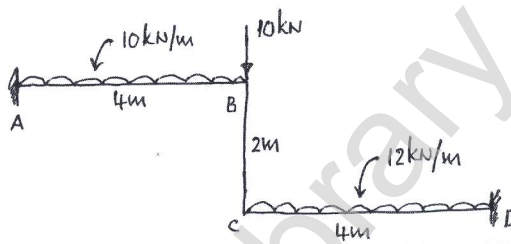

Fig. Q6
- 6 Analyse the frame shown in Fig. Q6 by displacement transformation matrix method. Draw BMD. (20 Marks)